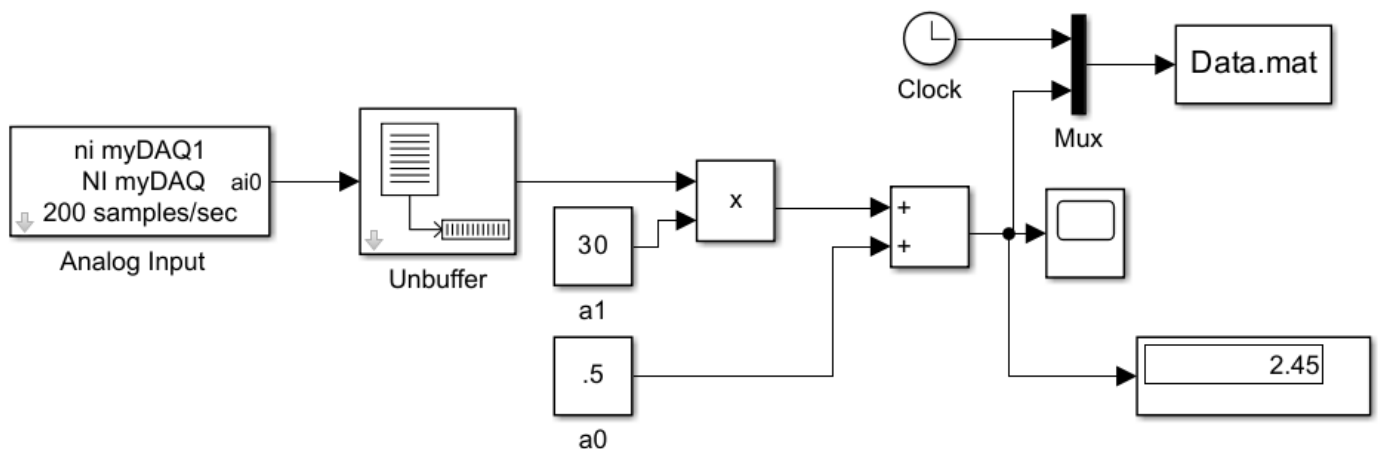

Figure 7. Example Simulink program including calibration and sample time logging.
You will add blocks to your Simulink program to use the calibration equation (See Figure 7). There are several ways to do this, but the following Blocks are necessary for a common approach:
- Wire to append sample times to the recorded data (See Figure 7).